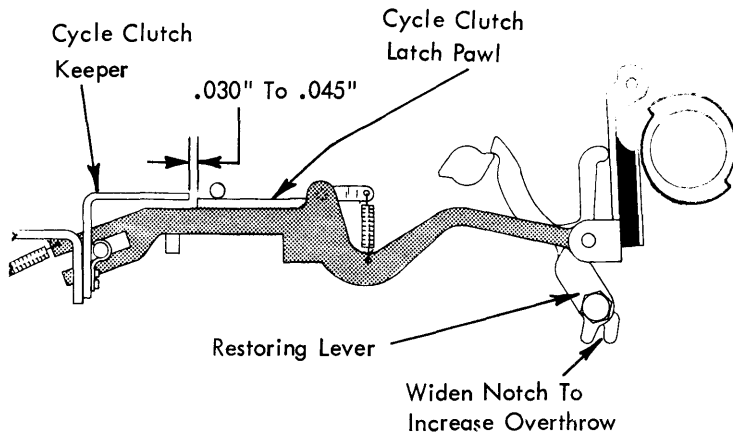

FIGURE 7. Cycle Clutch Latch Restoring Adjustment
- b. Old Style - Adjust the restoring lever so that the latch pawl overthrows the keeper by .030" to .045" (Fig. 7).